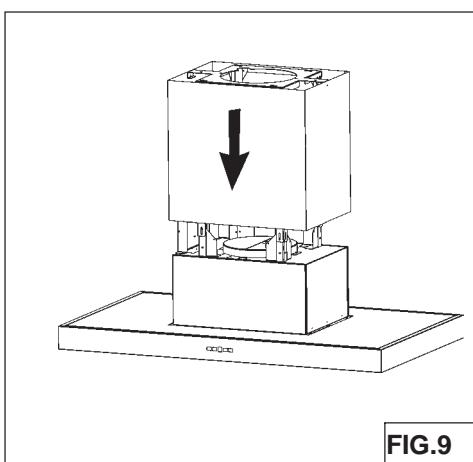

FIG.9
1. Insert the **upper flue** in the support frame (Fig. 9).
2. Mount the hood to the ceiling using the (4) previously installed 6x70mm screws. Tighten these screws. Install (2) additional 6x70mm screws as shown in the illustration. Make sure all (6) screws are secure.
3. Secure the hood to the ceiling and install the (2) additional screws (6x70mm).